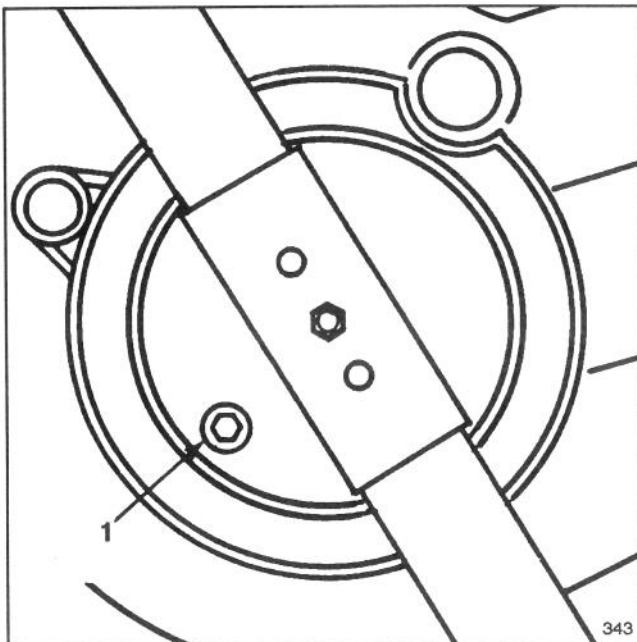
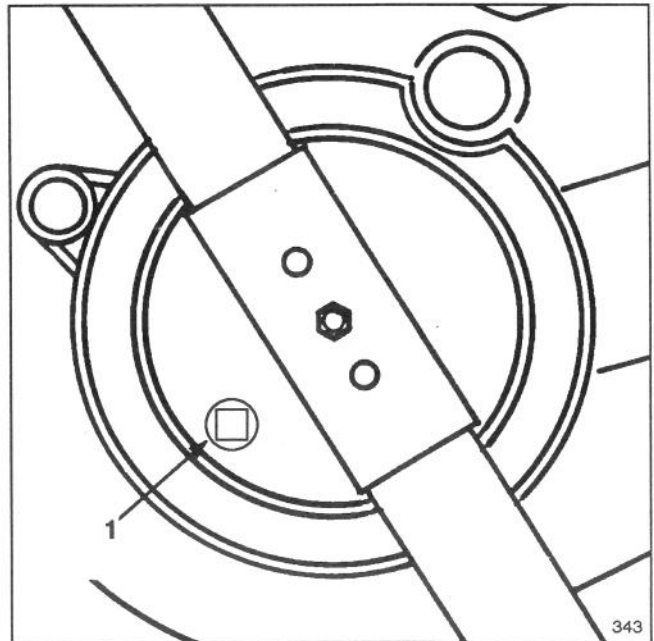

Figure 21
Figure 22
3. Tip mower on its right side. Remove drain plug from underside of mower using a 5/16" allen wrench (Fig. 21) or 3/8" socket extension with a wrench for turning (Fig. 22). Plug style will vary.